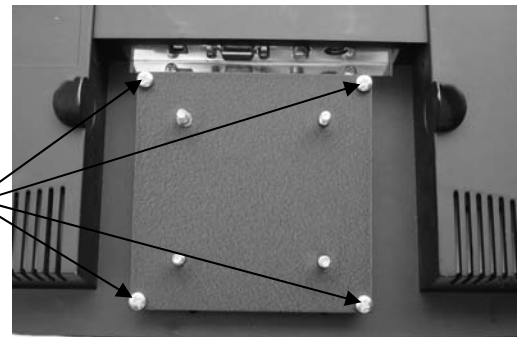

Figure 3. 100mm Bracket Installation
2. Install 100mm adapter bracket using four provided M4 X 6mm or M4 X 10 Phillips head screws (see Figure 3).